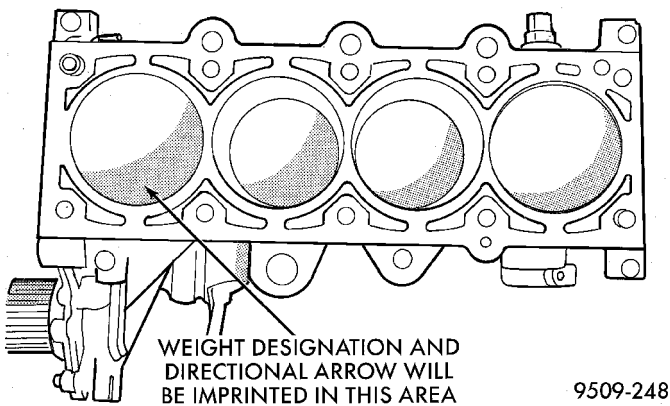

Fig. 78 Piston Markings
(1) Remove top ridge of cylinder bores with a reliable ridge reamer before removing pistons from cylinder block. **Be sure to keep tops of pistons covered during this operation**. Mark piston with matching cylinder number (Fig. 78).
- (3) Pistons will have a stamping in the approximate location shown in (Fig. 78). These stamps will be either a directional arrow or a weight identification for the assembly. L is for light and H is for heavy. These assemblies should all be the same weight class. Service piston assemblies are marked with a S and can be used with either L or H produc-
should face toward the front of the engine for DOHC engine (Fig. 78).